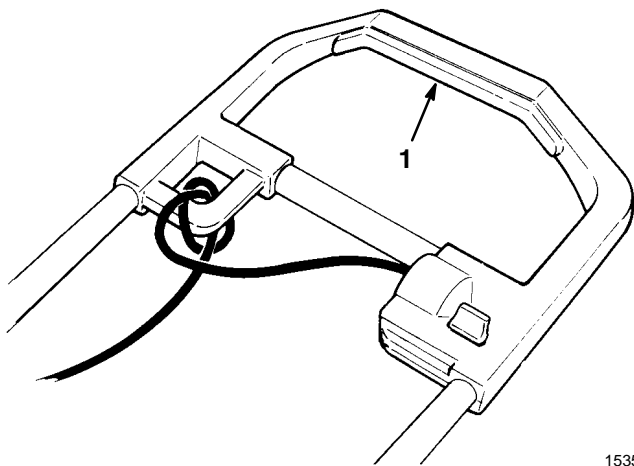

Figure 8
1. To start rotor, squeeze the control bar (Fig. 8).